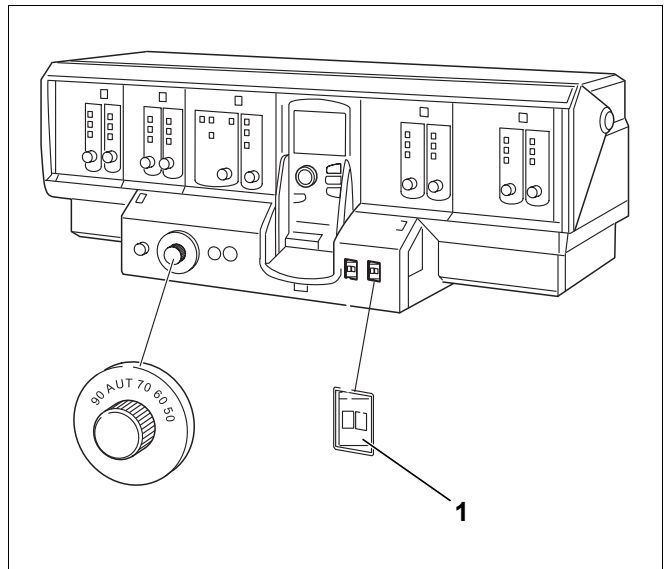

Fig. 52 Example: Logamatic 4000 Series control unit
- Pivot both ends of the thermal insulation upwards (Fig. 52, **Item 1**) and fix with the hook spring.
- Remove the cleaning cover on the rear section (Fig. 52, **Item 2**) and the flue gas collector (Fig. 52, **Item 3**).